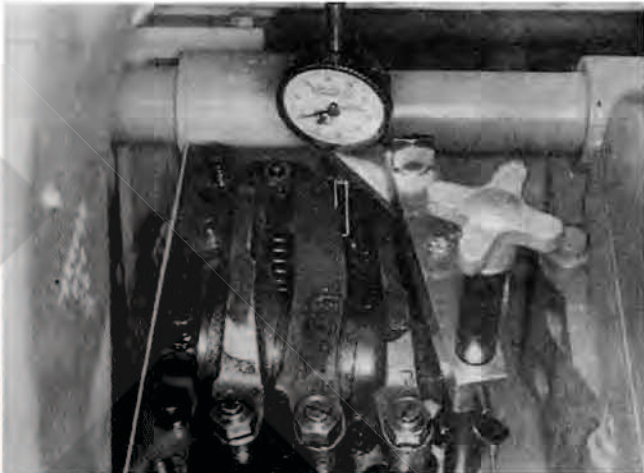

Fig. 2-35, (K21920). Dial indicator in place — extension in contact with plunger
**Note:** Any valve set position may be used as a starting point when adjusting the injectors, crossheads and valves. Determine which of the two (2) cylinder indicated have both valves closed (rocker levers free). This cylinder is in position for injector plunger travel, crosshead and valve adjustment.
2. Set up 3375007 Support Block on the rocker lever housing, of the cylinder selected, with the 3375005 dial indicator extension on the injector plunger top. Fig. 2-35.